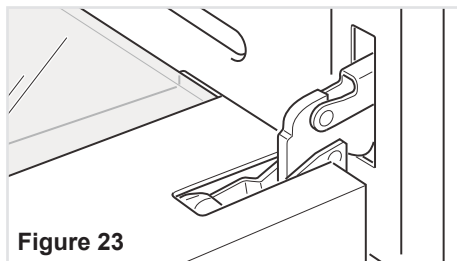

Figure 23
- Fully open the oven door (fig. 23).